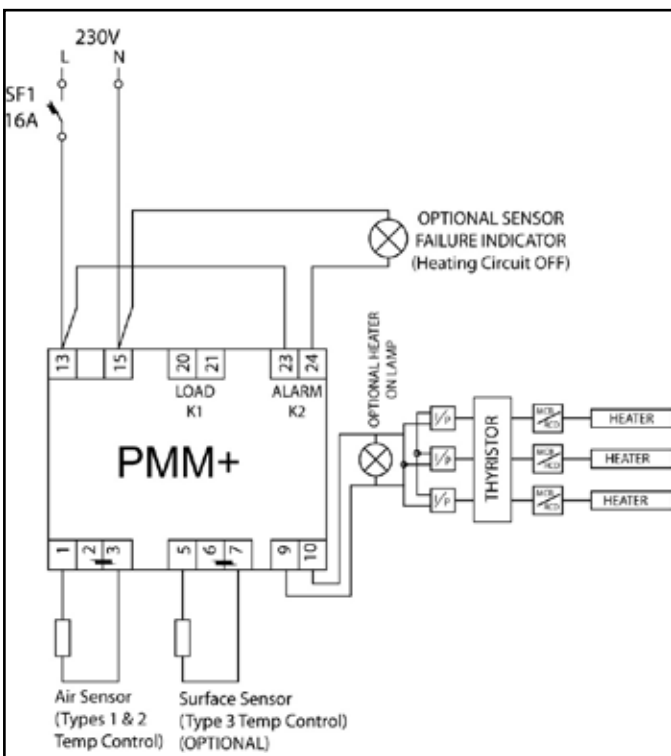

Fig 4 Wiring Diagram using external thyristor drive
- c) external thyristor, or solid state relay drive (see Fig 4).